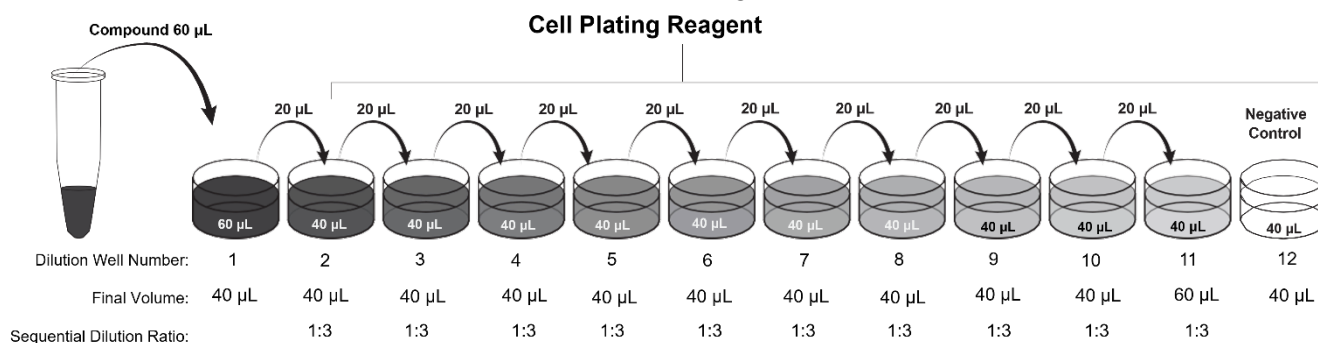

Figure 5. Compound serial dilutions - Agonist
2. Prepare compound (agonist) serial dilutions in a separate dilution plate (not included in the eXpress kit) in an 11-point series of 3-fold dilutions of the compound in Cell Plating Reagent as shown in the workflow below (Figure 5).
- d. Add 60 μ L of the highest concentration of compound to well number 1 (Figure 5).